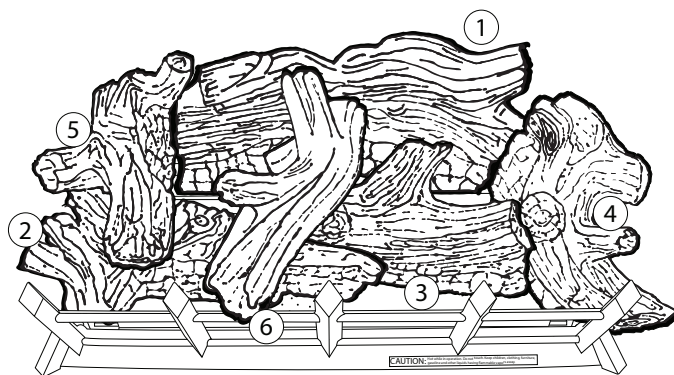

Figure 6.32 - Log #6 Placement
6. Place the top center log (#6) to the right of the pilot orifice allowing the log to rest on top of the front right log (#3) and the front left log (#2). See Figure 6.32.